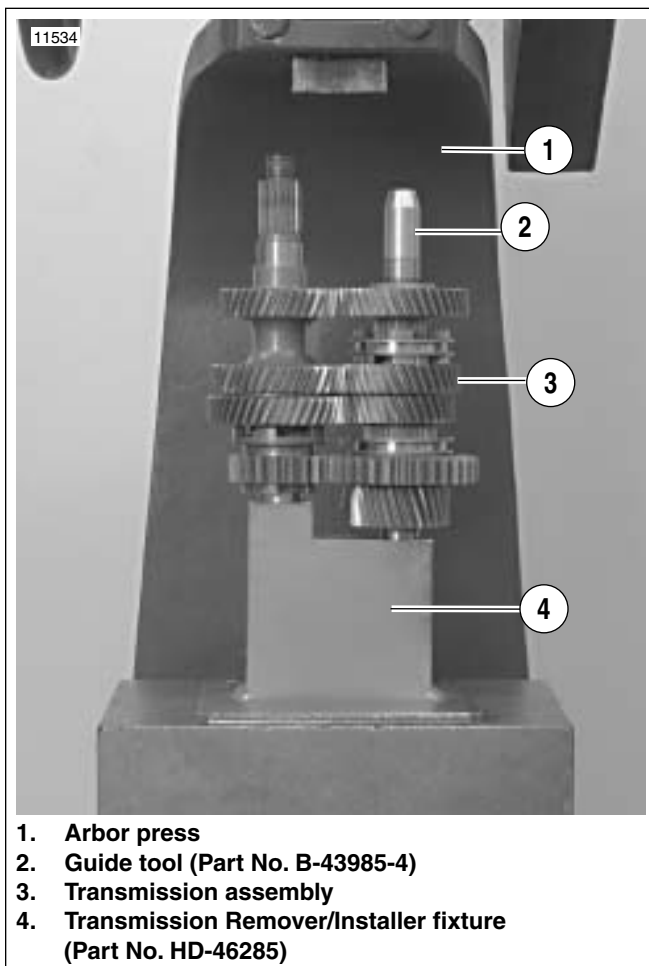

Figure 6-86. Transmission Assembly in Fixture (Typical)
1. See Figure 6-86. Place transmission assembly onto TRANSMISSION REMOVER/INSTALLER FIXTURE (Part No. B-43985-2) on arbor press.